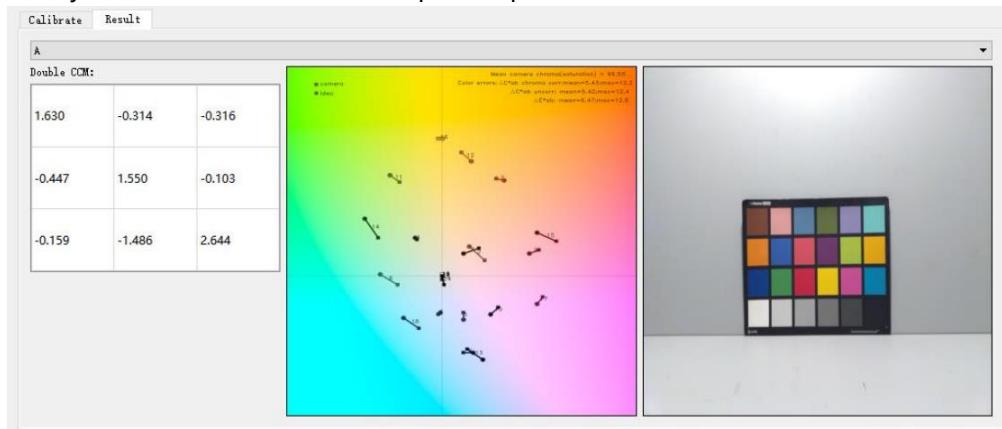

Figure 4-5-2-5
12. If ΔE is too large, the raw image may be too bright. You can right-click the ColorChecker image on the right side of Figure 4-5-2-5, click Save Current, save the image, and check whether each color patch is overexposed or a certain channel is saturated (CCM calibration after applying the Gamma curve may cause calibration patches saturation).